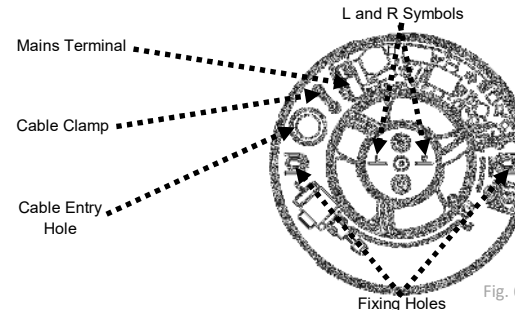
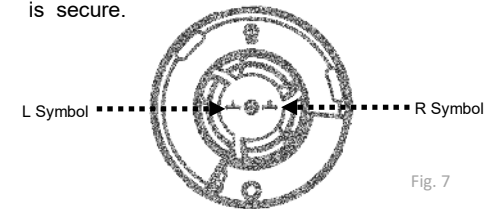

Fig. 6
Fig. 7
6. Fix sealing grommet supplied into the cable entry hole. (Fig. 6)
9. Position fan so cable entry and fixing holes align with those on mounting surface. Feed through cable and fix fan. (Fig. 6)
2. Make provision for the electric supply cable and wall plugs / appropriate fittings using the main body as a template. Level using guides below the L and R symbols. (see Fig. 6, page 7)
12. To replace IPX cover. Line up the L and R symbols on the main body of the fan (Fig. 6) with the L and R symbols on the IPX cover, (Fig. 7). Lightly press IPX cover onto main body.